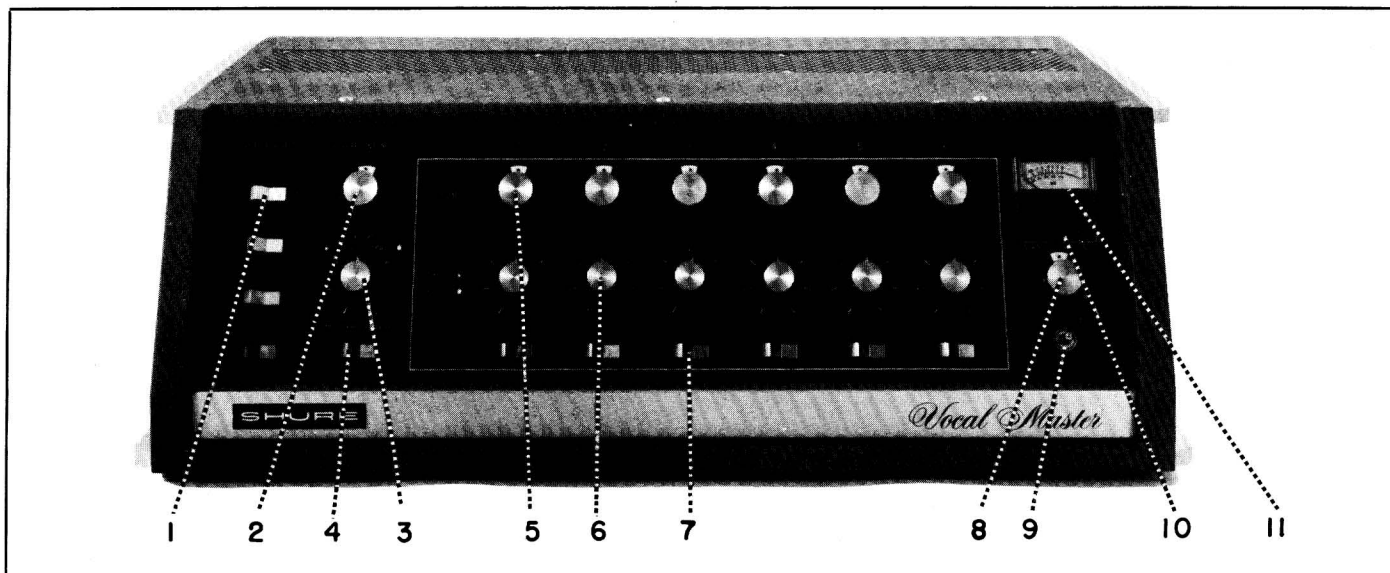

FIGURE 1.
**Front Panel Controls** (Refer to Figure 1)